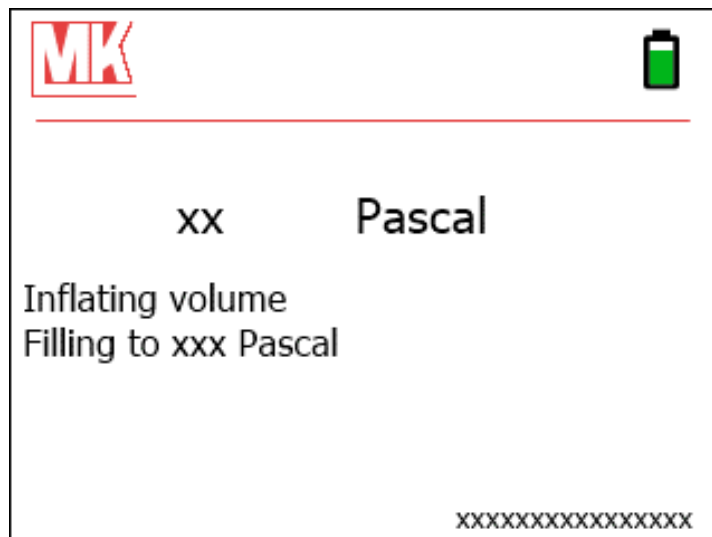

Figure 8: Display, Building up the pre-pressure
- ⇒ The pre-pressure is then built up automatically (figure 8). The pre-pressure is set at the factory.